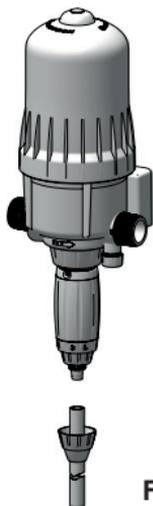

Fig. 6
- Unscrew the nut (Fig. 6) at the bottom of the dosing part and thread the suction hose into the nut.